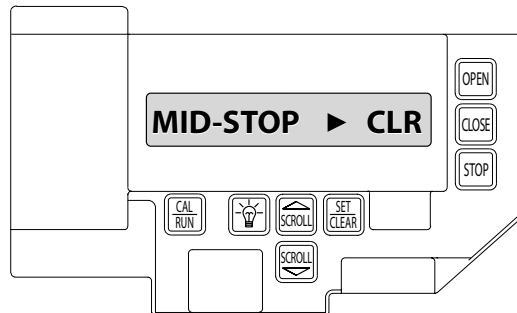

FIG. 4
3. Press SCROLL (up or down) until display reads MID-STOP > CLR. FIG.4